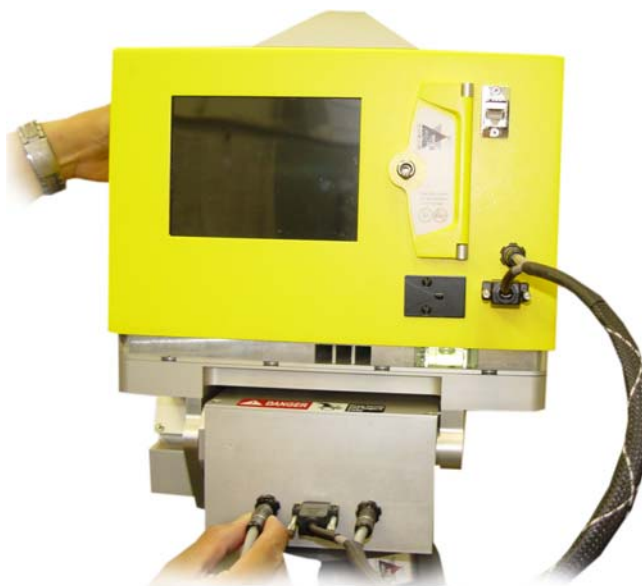

Figure 27: Connecting the battery cable to the pan/tilt base
8. Connect the battery cable to the pan/tilt base (Figure 27). ILRIS-3D boots up.